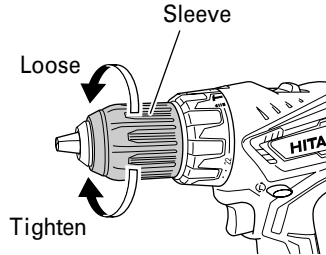

Fig. 9
(1) After inserting a driver bit, etc. into the keyless drill chuck, firmly tighten the sleeve by turning it toward the right (in the clockwise direction as viewed from the front) (See Fig. 9).